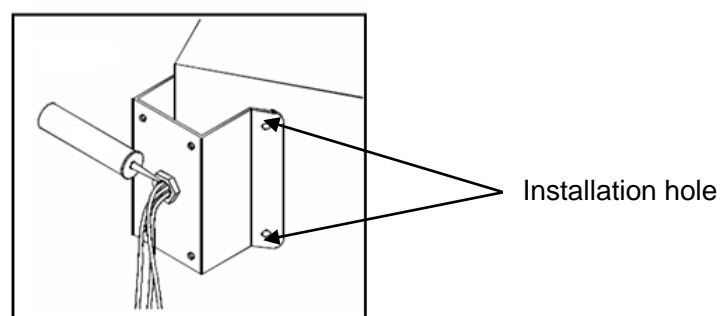

Figure 4-2
1). Please draw four holes position in the wall according to the holes of the corner installation accessories. See Figure 4-2.